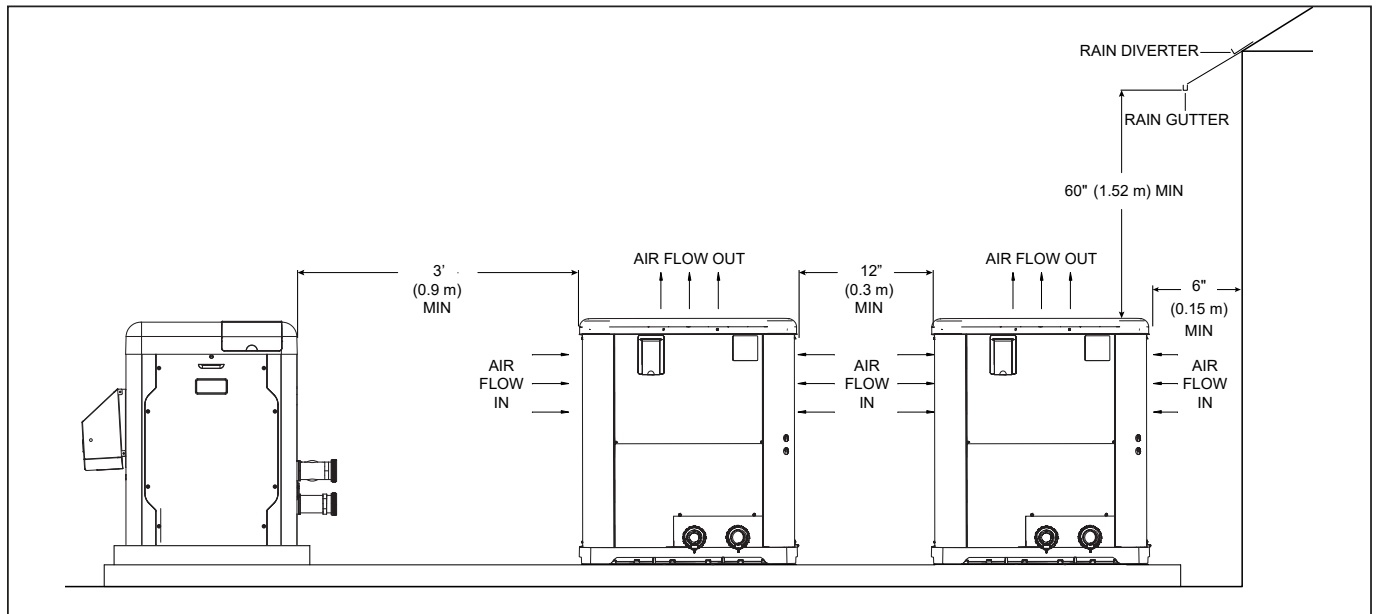

Figure 2. Installation Clearances
- When installing multiple HPPH or AC units in the same area, ensure a minimum distance of 12 inches between units and 6 inches between units and walls. Refer to Figure 2.
- This unit features an 'up-flow' discharge for quiet operation. Air is pulled up through the evaporator coil and discharged through the top grill. Allow at least 5 ft (1.5 m) clearance above the unit for unrestricted air discharge. Do NOT install the unit under a porch or deck. Refer to Figure 2 for installation clearances. Allowing cold discharge air to recirculate back into the evaporator coil will greatly reduce the unit's heating capacity and efficiency. To minimize water piping, locate the unit as close as possible to the existing pool pump and filter.